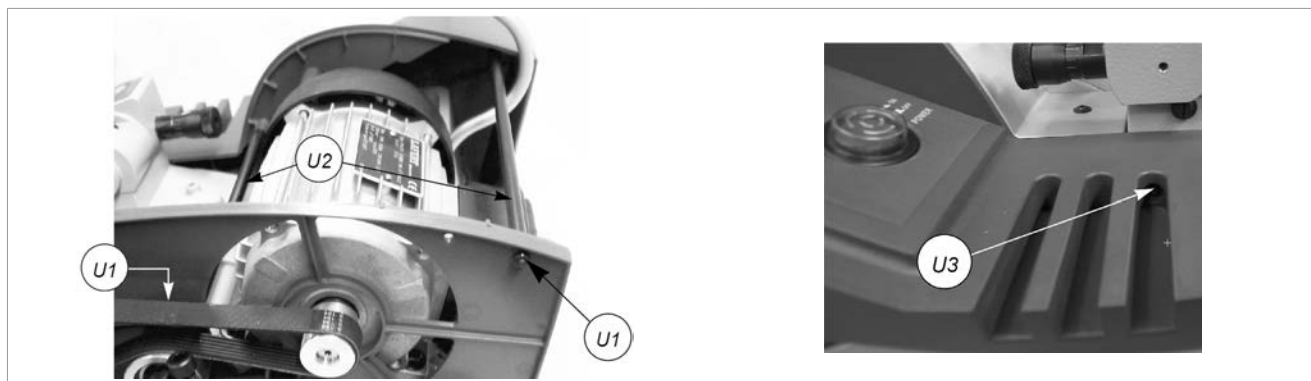

Fig. 38
- 6) Loosen the nuts (U1) on the stay bolts (U2) and remove together with their washers (Fig. 38).
- 7) Loosen the stay bolts (U2) (Fig. 38) and remove.
- 8) Loosen the screw (U3) on the left-hand cover (Fig. 38).